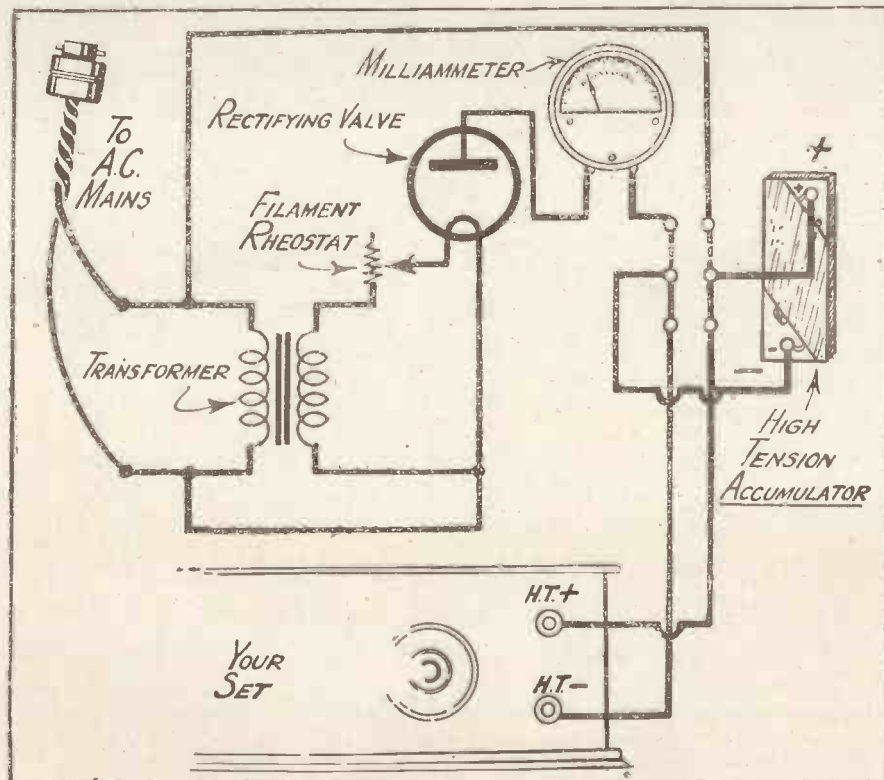

Fig. 2. The theoretical circuit.
Fig. 2 shows the theoretical circuit of the charger. The instrument is made possible by the introduction by the leading valve makers of special two-electrode rectifying valves, made to fit into ordinary valve sockets, which will pass sufficient current to charge your H.T. accumulators
(1) If the filament resistances are in the negative leads, reverse the connections to the L.T. positive and the L.T. negative terminals within the set, as shown in Fig. 2. This will place the filament resistances in the positive valve legs, a better position for modern valves if grid bias is used.
(2) Remove the lead which goes from the variable condenser to the potentiometer slider and connect it directly to one of two new terminals for grid bias. Connect the other terminal to the negative L.T. wire.
(3) Connect one terminal of the neutralising condenser to the grid of the H.F. valve.
(4) Change the wires on the underside of your panel from those shown in Fig. 3 to those shown in Fig. 4. (Note: Figs. 3 and 4 will be found in last week's issue). You will notice that the lead which previously went to the H.T. positive and the variable condenser now goes to the second terminal of the neutralising condenser. Join the potentiometer slider, which was previously connected to the first valve, to the detector valve, as shown in Fig. 2. (Reproduced again above).
(5) Take the lead which previously went from the L.F. transformer to the L.T. negative lead to one of two more terminals, which you can place in a convenient part of the panel. The second terminal should now be joined to the negative L.T. lead.